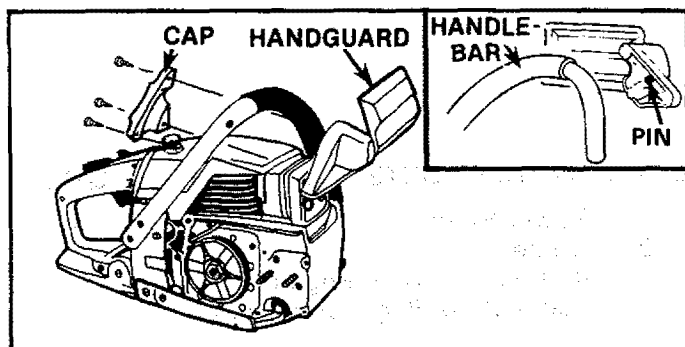

Figure 1
1. Align the Handguard and Handguard Cap around the handlebar as shown in Figure 1.
2. Fit the mounting pin on the Handguard into the hole in the handlebar. Figure 1.